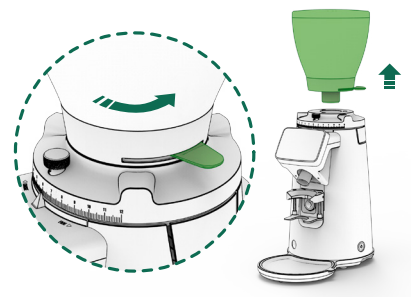

Fig. 2
12.3.2. Check that the shutter is in the closed position before removing the hopper from the grind regulator (8) (Fig. 2).